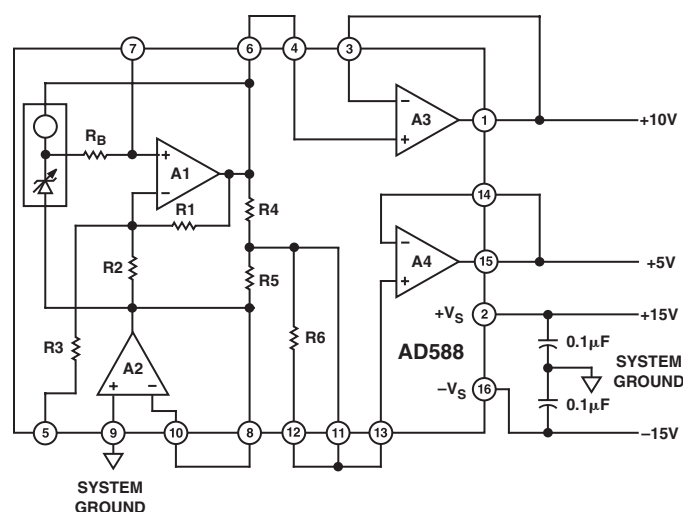
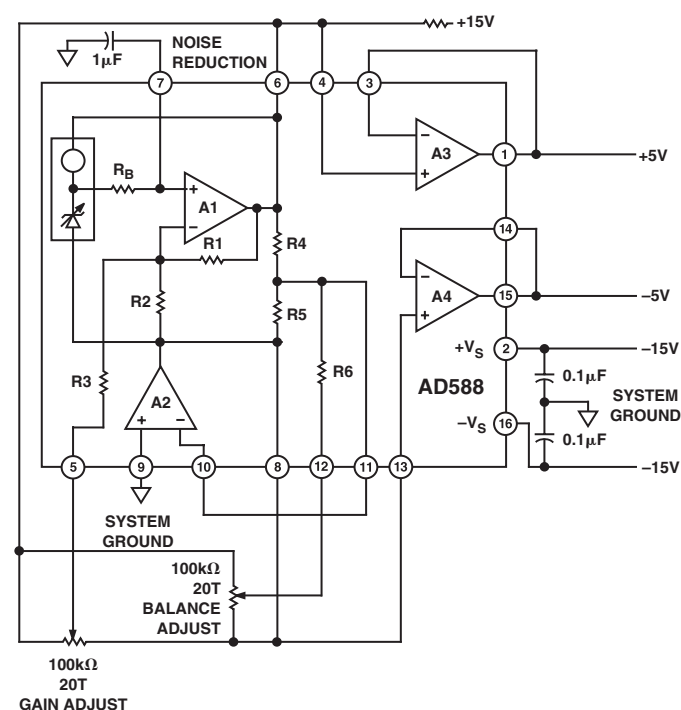
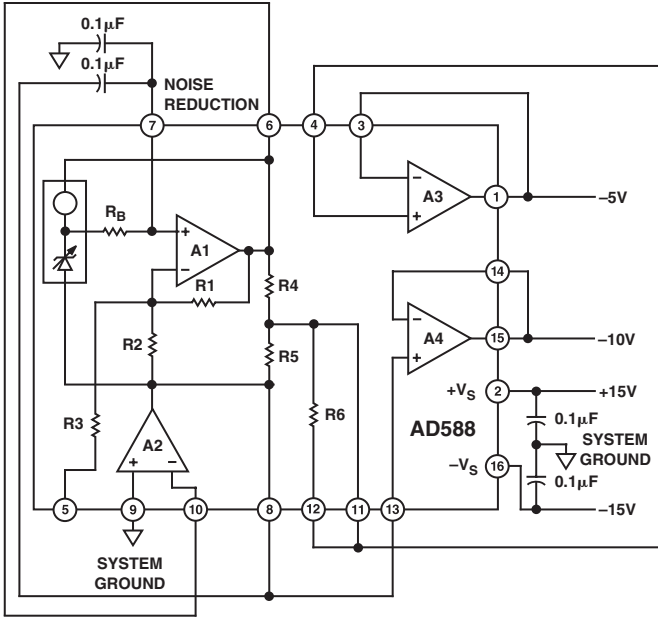
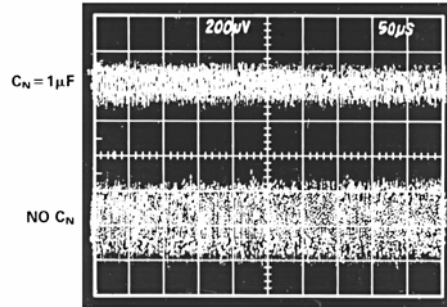

Figure 2a. +10 V Output
Figure 2b. +5 V and -5 V Outputs
Figure 2c. -10 V Output
Figure 4. Effect of 1  $\mu\text{F}$  Noise Reduction Capacitor on Broadband Noise
+10 V	Figure 2a
-10 V	Figure 2c
+5 V, -5 V, ±5 V	Figure 2b
The AD588 can be configured to provide +10 V and -10 V reference outputs as shown in Figures 2a and 2c, respectively. It can also be used to provide +5 V, -5 V, or a  $\pm 5$  V tracking reference, as shown in Figure 2b. Table I details the appropriate pin connections for each output range. In each case, Pin 9 is connected to system ground and power is applied to Pins 2 and 16.
The architecture of the AD588 provides ground sense and uncommitted output buffer amplifiers that offer the user a great deal of functional flexibility. The AD588 is specified and tested in the configurations shown in Figure 2a. The user may choose to take advantage of the many other configuration options available with the AD588. However, performance in these configurations is not guaranteed to meet the extremely stringent data sheet specifications.
As indicated in Table I, a +5 V buffered output can be provided using amplifier A4 in the +10 V configuration (Figure 2a). A -5 V buffered output can be provided using amplifier A3 in the -10 V configuration (Figure 2c). Specifications are not guaranteed for the +5 V or -5 V outputs in these configurations. Performance will be similar to that specified for the +10 V or -10 V outputs.
Amplifiers A3 and A4 can be used interchangeably. However, the AD588 is tested (and the specifications are guaranteed) with the amplifiers connected as indicated in Figure 2a and Table I. When either A3 or A4 is unused, its output force and sense pins should be connected and the input tied to ground.
Figure 2b shows GAIN and BALANCE trims in a +5 V and -5 V tracking configuration. A 100 k $\Omega$  20-turn potentiometer is used for each trim. The potentiometer for GAIN trim is connected between Pin 6 ( $V_{HIGH}$ ) and Pin 8 ( $V_{LOW}$ ) with the wiper connected to Pin 5 (GAIN ADJ). The potentiometer is adjusted to produce exactly 10 V between Pin 1 and Pin 15, the amplifier outputs. The BALANCE potentiometer, also connected between Pin 6 and Pin 8 with the wiper to Pin 12 (BAL ADJ), is then adjusted to center the span from +5 V to -5 V.
If further noise reduction is desired, an optional capacitor,  $C_N$ , may be added between the NOISE REDUCTION pin and ground, as shown in Figure 2b. This will form a low-pass filter with the 4 k $\Omega$   $R_B$  on the output of the Zener cell. A 1  $\mu\text{F}$  capacitor will have a 3 dB point at 40 Hz and will reduce the high frequency (to 1 MHz) noise to about 200  $\mu\text{V}$  p-p. Figure 4 shows the 1 MHz noise of a typical AD588 both with and without a 1  $\mu\text{F}$  capacitor.
Note that a second capacitor is needed in order to implement the NOISE REDUCTION feature when using the AD588 in the -10 V mode (Figure 2c.). The NOISE REDUCTION capacitor is limited to 0.1  $\mu\text{F}$  maximum in this mode.